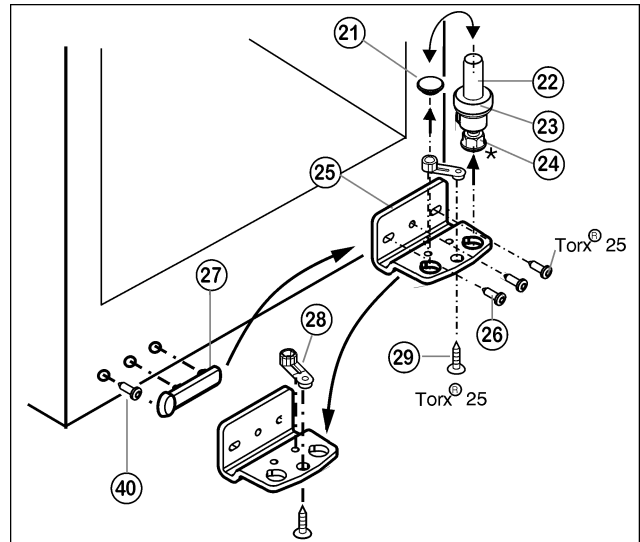

Fig. 5
- ▶ Lift out the bearing pin Fig. 5 (22) together with washer Fig. 5 (23) and adjustable-height foot* Fig. 5 (24).
- ▶ Lift off the stopper Fig. 5 (21).
- ▶ Unscrew Fig. 5 (26) the turn hinge Fig. 5 (25).
- ▶ Unscrew Fig. 5 (29) the bearing element Fig. 5 (28), transfer it to the opposite location hole of the turn hinge and screw it firmly into place.
- ▶ Carefully lift off the cover on the handle side Fig. 5 (27), undo the screw Fig. 5 (40) and transfer both to the opposite side.
- ▶ Screw the turn hinge Fig. 5 (25) firmly into place on the new hinge side, possibly using a cordless screwdriver (with 4 Nm).
- ▶ Re-insert the stopper Fig. 5 (21) into the other hole.
- ▶ Re-insert the bearing pin Fig. 5 (22) together with the washer and adjustable-height foot*. In so doing, pay attention that the locating lug points backwards
- ▶ Lift the stopper (33) out of the door bearing bush and transfer it.
- ▶ Dismantle the door handle (32), stoppers (33) and pressure plates* (34) and transfer to the opposite side.
- ▶ Place the door from above onto the lower bearing pin Fig. 5 (22).
- ▶ Insert the upper turn hinge (12) in the door on the new hinge side.
- ▶ Screw the upper turn hinge (12) **firmly** into place (**with 4 Nm**)(2x Torx® 25) (13). Possibly make preliminary holes with a bradawl or use a cordless screwdriver.
- ▶ Snap the cover (10) and cover (11) into place at the opposite side.
- ▶ Align the door to the appliance housing by way of the two oblong holes in the bottom turn hinge Fig. 5 (25). To do so, unscrew the middle screw.